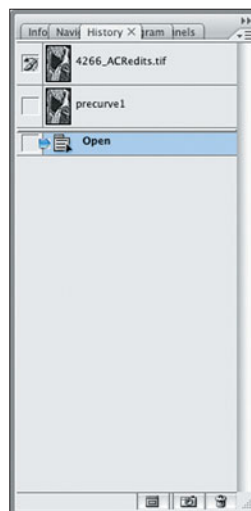

Figure 7.12 The first step is to create a snapshot to identify the before state. Here I label it *precurve1*.
7. Make selective, or localized, image edits using the Curves tool and the History Brush (see Figures 7.12 to 7.17).